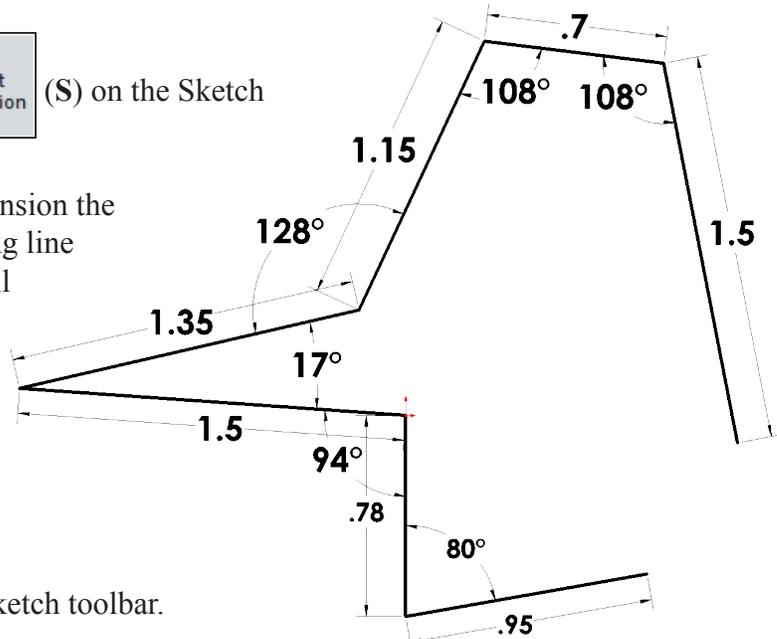

Fig. 5
Step 3. Click **Smart Dimension**  (S) on the Sketch toolbar.
Step 4. Add dimensions, **Fig. 5**. Dimension the angles first. **Tip:** After selecting line to dimension, move cursor until preview indicates the parallel dimension type, then **right click to lock position**.